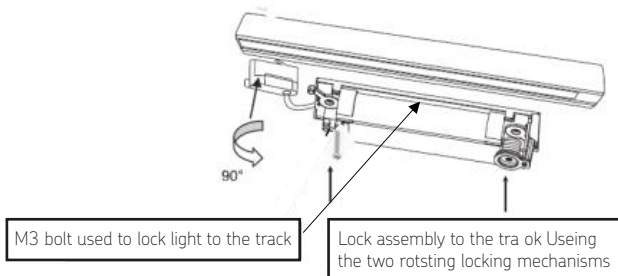

Fig. 2
- Install the fitting into the track and turn the lever at the front and rear of the fitting to secure in place (see Fig. 2)
- Once placed and locked into its final position on the track, use the screw provided to fasten the casing located on the centre of the fitting to the track and rotate levers at both ends to secure the fitting with the locking mechanisms (see Fig. 2)